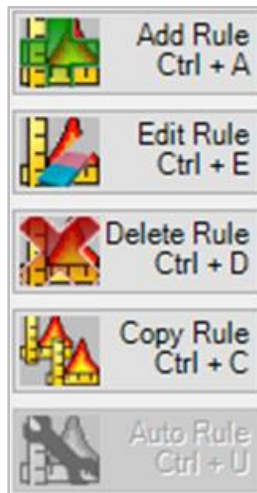

Figure 7-20. Rule input options.
LFTFC users can select from the following **Rule** input options: **Auto Rule**, **Add Rule**, **Edit Rule**, **Delete Rule**, and **Copy Rule** (Figure 7-20).
- Rule inputs are selected by clicking one of the icons at the top left of the Fuel Rules dialog box (Figure 7-20).
- To use the Add Rule option, click the **Add Rule** icon (Figure 7-20).
- To use the Edit Rule option, click the **Edit Rule** icon on the Fuel Rules dialog box (Figure 7-20).